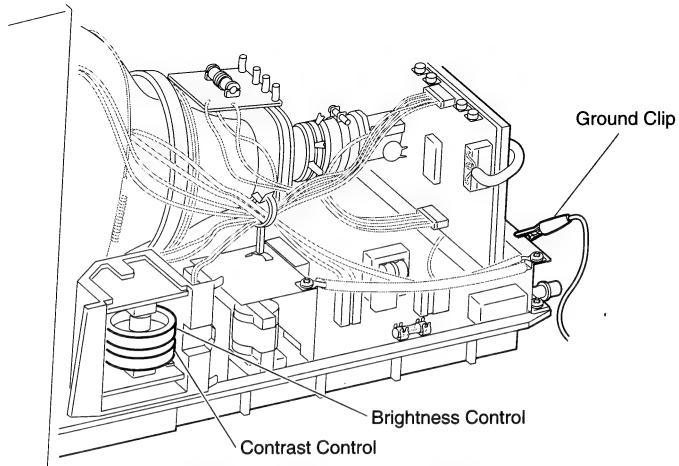

Figure 6 Brightness and Contrast Controls
2. FIGURE 6. Attach the high-voltage probe ground clip to the metal monitor chassis.
3. FIGURE 6. Turn the brightness control to detent (midrange) and the contrast control to maximum (turn the knob away from the screen).